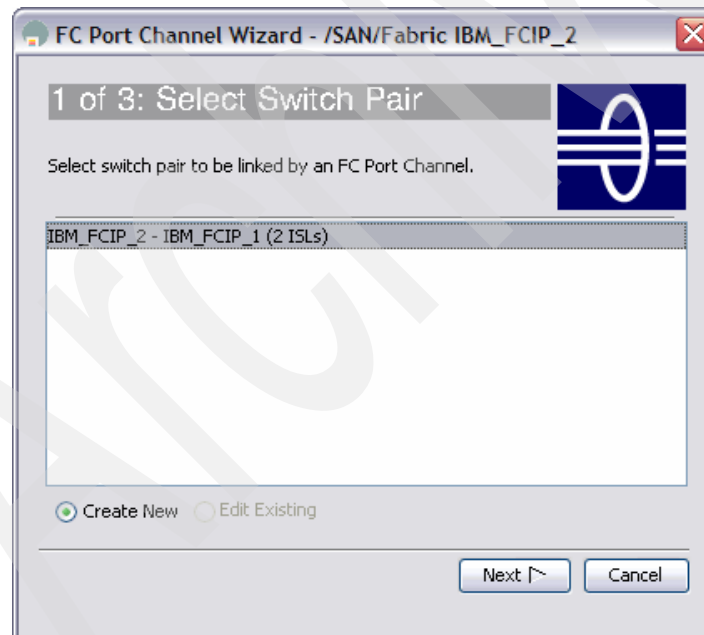

Figure 12-24 FM Port Channel Wizard panel 1 of 3
- a. In the first panel of the wizard (Figure 12-24), we identify the switch pair that will be linked by the PortChannel. In our case, **Create New** is automatically selected (because there no existing links to edit).